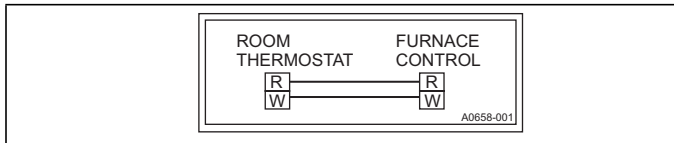
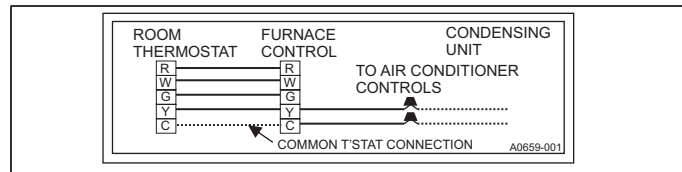

Figure 18: Wiring for heat only thermostat
Figure 19: Wiring for electronic heat-cool thermostat
2. Connect the thermostat wires to the furnace low voltage pigtails. See Figure 18 (heating only), and Figure 19 or 20 (heating and cooling).